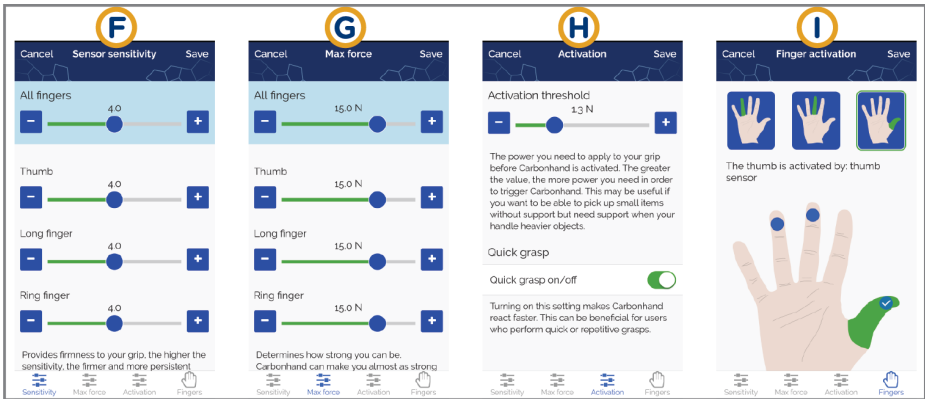

Figure 26: The Carbonhand App. The features that can be modified.
1. Select **Sensitivity** (figure 26 F).
1. Select **Max force** (figure 26 G).
1. Select **Activation** (figure 26 H).
1. Select one of the three hand icons (figure 26 I) at the top of the display to select a finger.